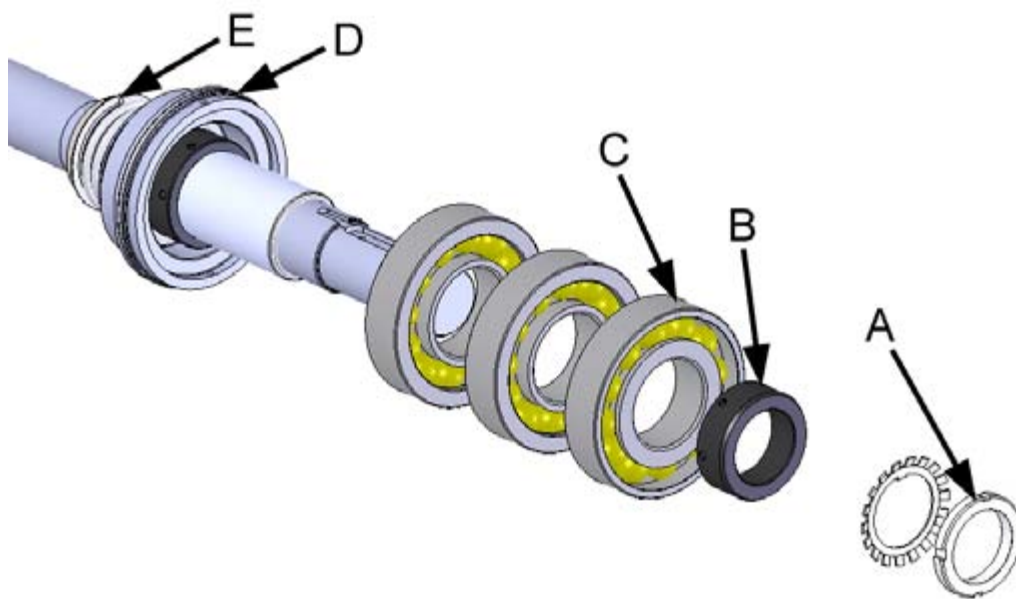
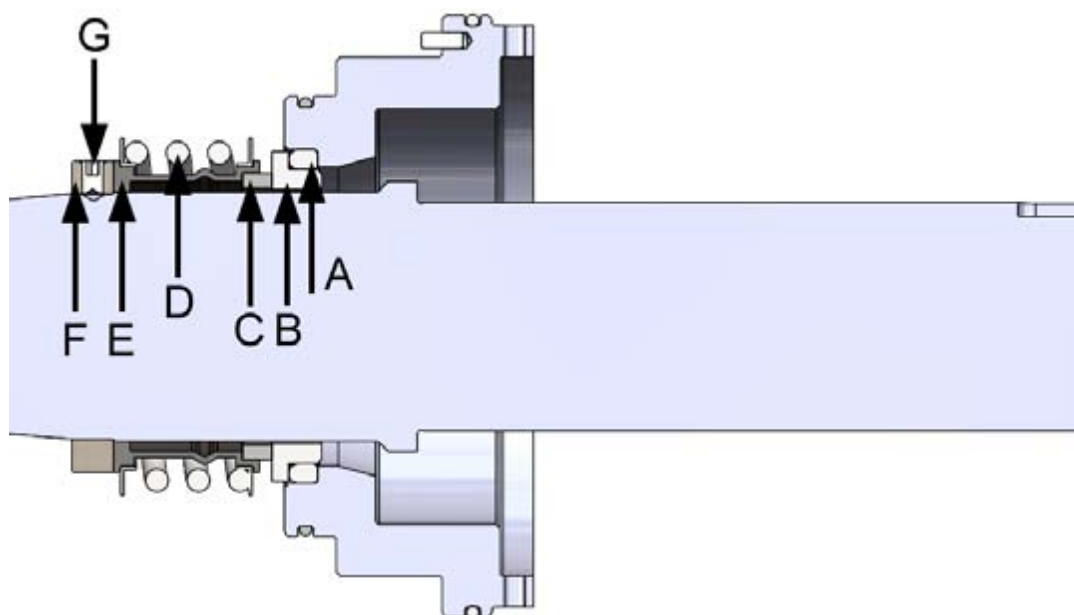
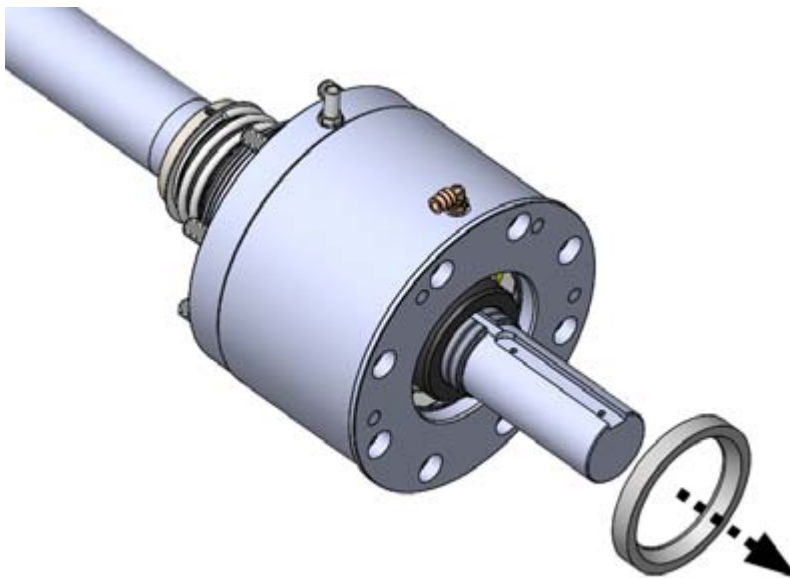

Figure 6. Removing the bearings from the shaft
Figure 7. Mechanical seal
Figure 9. Shaft seal of the bearing housing
9. Pull the bearings (figure 6, point C) off the shaft.
Before removing the mechanical seal (figure 6, point E), remove the support ring's (figure 7, point F) set screws (3 pcs, figure 7, point G).
The mechanical seal consists of several parts (figure 7).
Parts A and B (figure 7) are removed by pushing them from the bearing side.
A shaft seal that seals the front end of the bearing housing is attached to the bearing housing. The seal lip rubs against the surface of the sleeve (figure 6, point B). The shaft seal detaches towards the coupling flange and is crimped to the bearing housing. The seal can be replaced without detaching the bearing housing from the frame (figure 9).
- 1.4. Push the rotating part of the mechanical seal (figure 7, points C, D, and E) into place against the support ring.